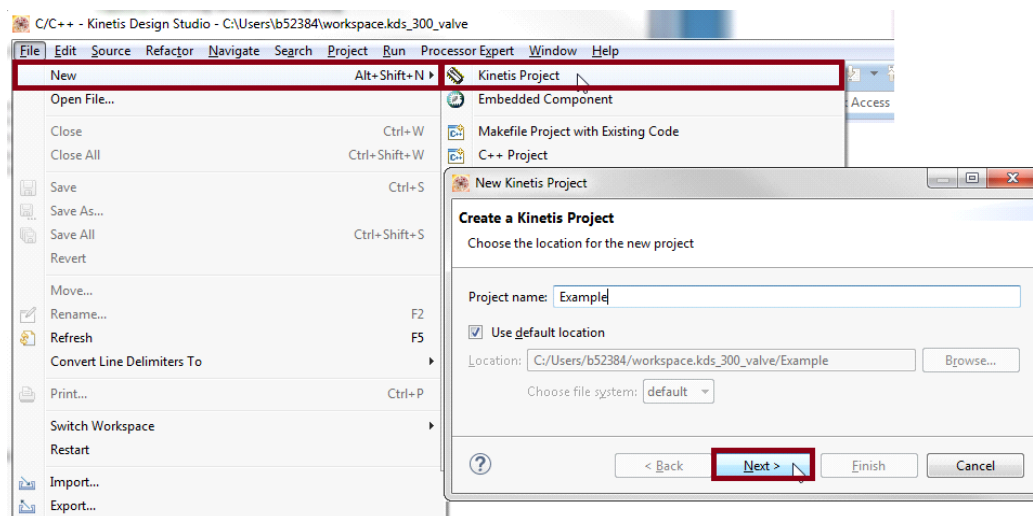

Figure 12. Creating a Kinetis Project
1. In the Kinetis Design Studio menu bar, select **File -> New -> Kinetis Project**. When the **New Kinetis Project** dialog box opens, enter a project name into the text box and then click **Next**. (see Figure 12).